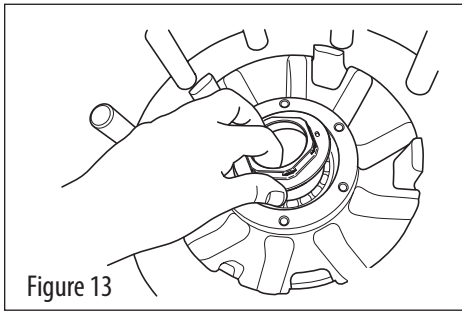

Figure 13
2. Position the spindle nut and washer against the outer bearing (see Figure 13).